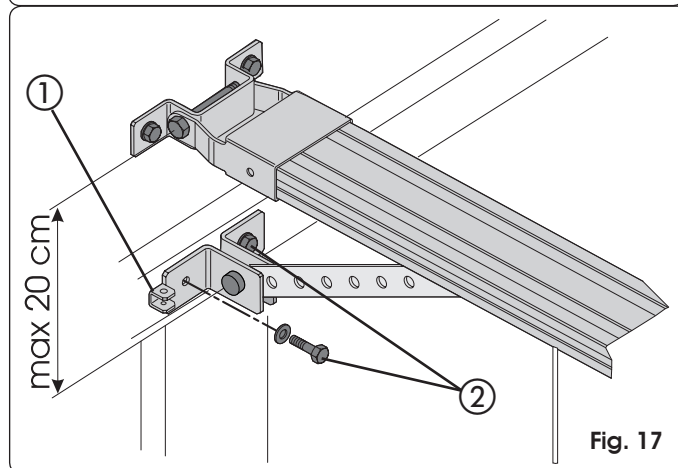
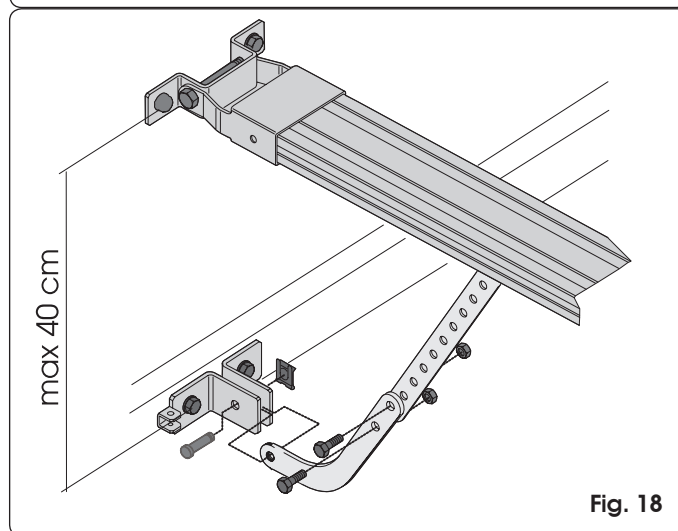

Fig. 17
Fig. 18
Position the fitting on the door so that the through-element of the release cable is facing toward the left side of the door (ref. ① Fig. 17).
- 4) Make sure that the distance between the between-centres of the front fitting and the on-door fitting does not exceed 20 cm (Fig. 17). To ensure correct operation of the automated system, we advise you to avoid arm inclinations of over 30° compared to the sliding guide. If using the curved arm for sectional doors (optional), carry out the assembly with the straight arm of the carriage as shown in Fig. 18. To improve efficiency of the anti-crushing system, we advise you to secure the fitting on the sectional door as low as possible, without, however, exceeding the distance of 40 cm from the operator's front fitting.
- 5) Mark, drill and secure the fitting to the door, using the screws (ref. ② Fig. 17) **NOT** supplied.